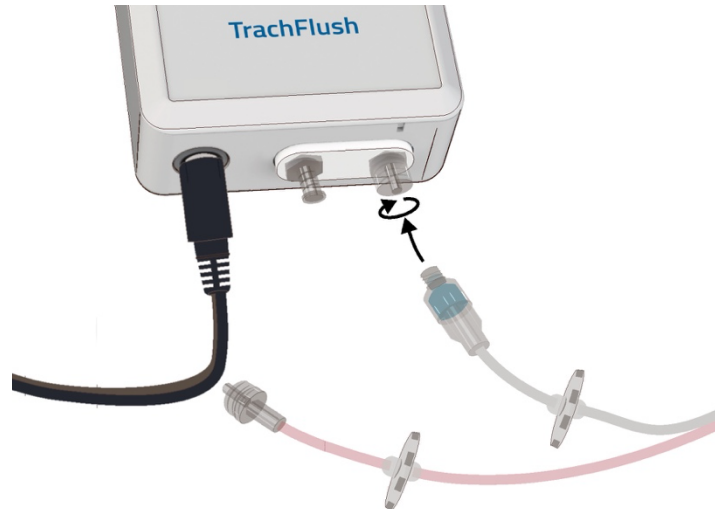

Figure 9: Device connectivity, connecting Cuff Pressure Tube
**Step 1:** Connect the Cuff Pressure Tube (transparent tube) connector to the cuff inlet socket of the TrachFlush by twisting it on as shown in Figure 9.